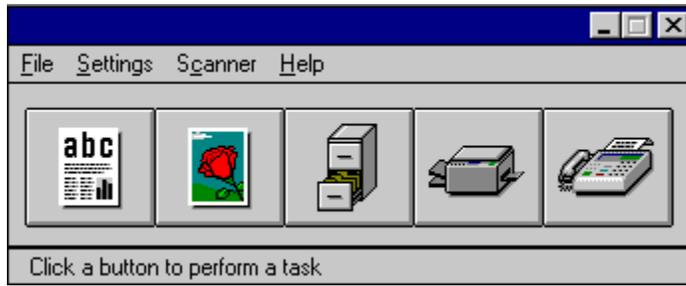
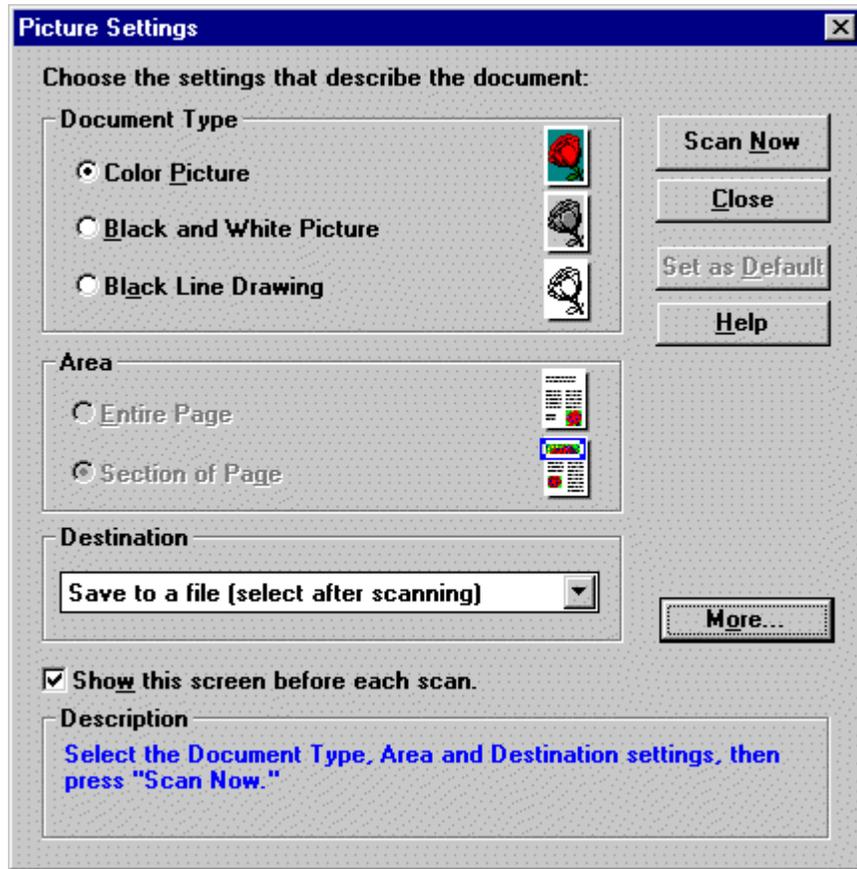
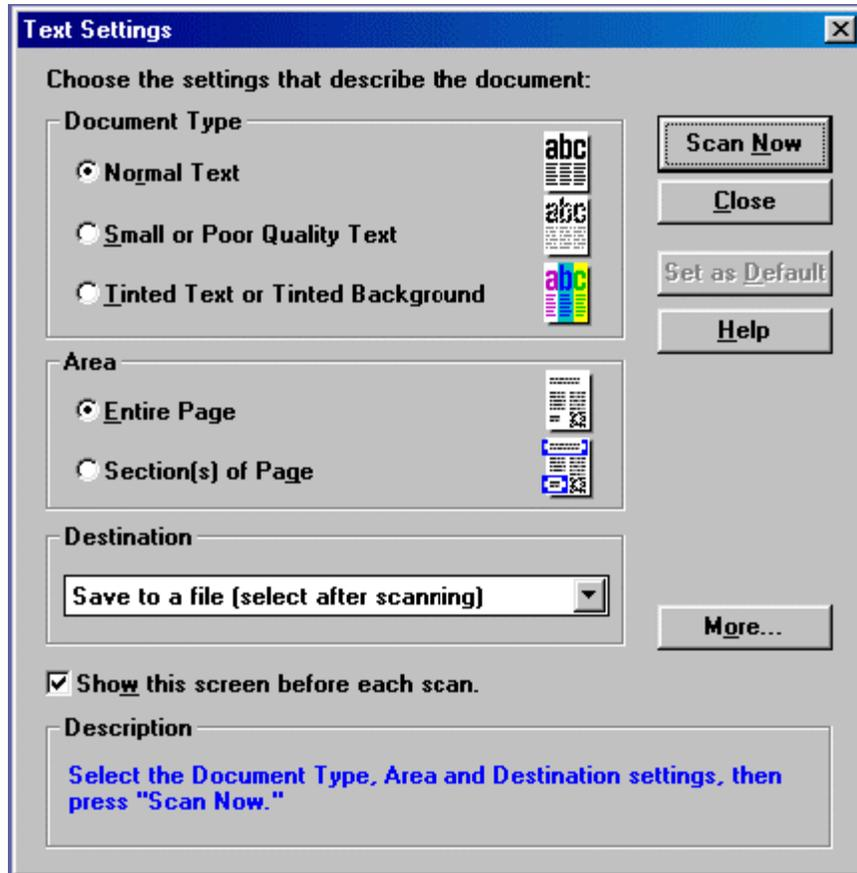

Figure 16 PageScan Scanner
Figure 17 Foto Touch
Figure 18 OCR Scan
- The scanner application program will automatically open a window similar to that shown in Figure 16. If it does not open, double-click the **Imaging** folder located on the **Desktop**. From there double-click **PageScan Control Center**.
- Click on the **Picture** icon as shown in Figure 16. This brings up a window similar to that shown in Figure 17.
- Click on the **ABC** icon as shown in Figure 16. This brings up a window similar to that in Figure 18.